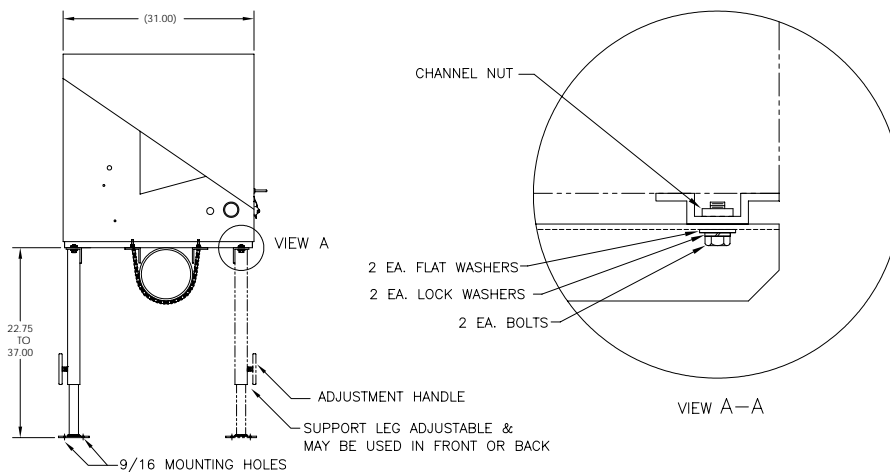

Figure 11 Optional Support Leg Overview
- 1) Set Support Leg underneath front or rear (or both if using 2 kits) of pipe mounted enclosure, oriented so that the Leg brace is horizontal with front of enclosure (see Figure 11).